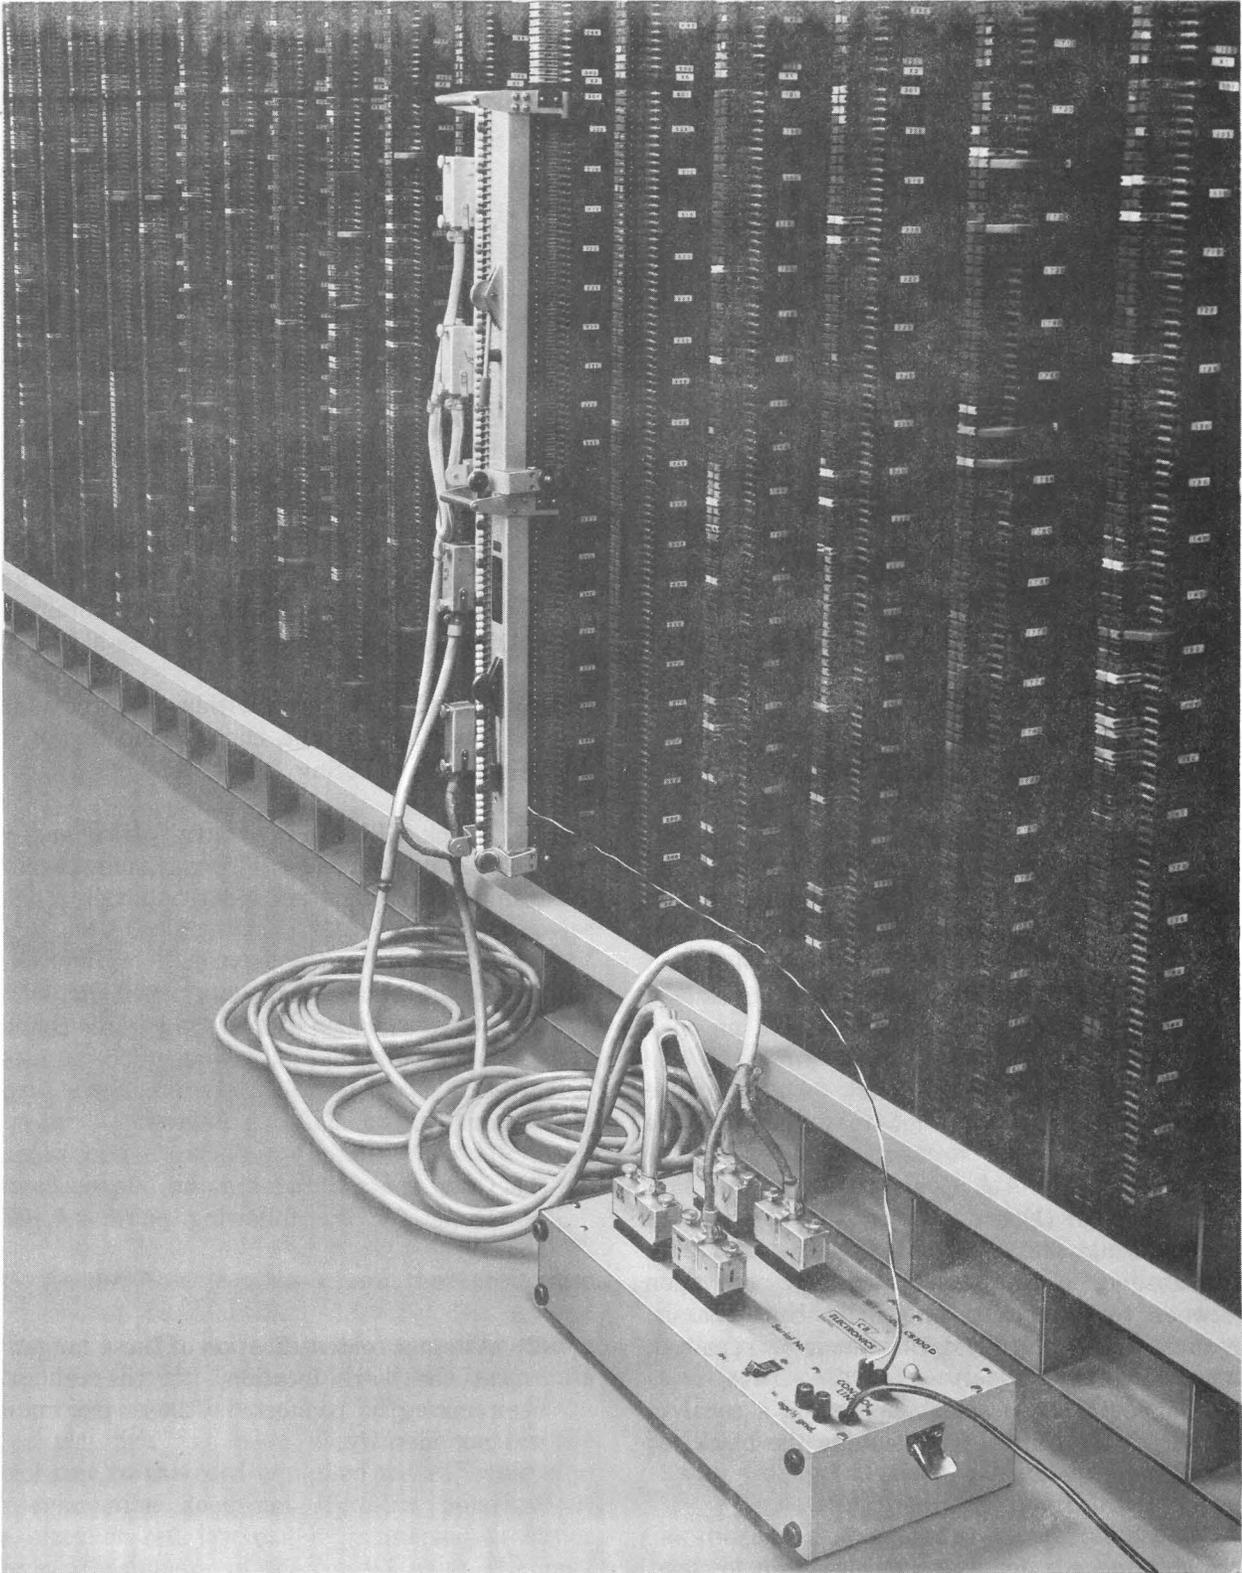

Fig. 3—CB100D Connected to Main Frame
3.02 If the cables connecting the CB100D Test Set to the main distributing frame connectors (Fig. 3) are transposed when placed, incorrect identification will result. Verification of correct placement can be made as follows: